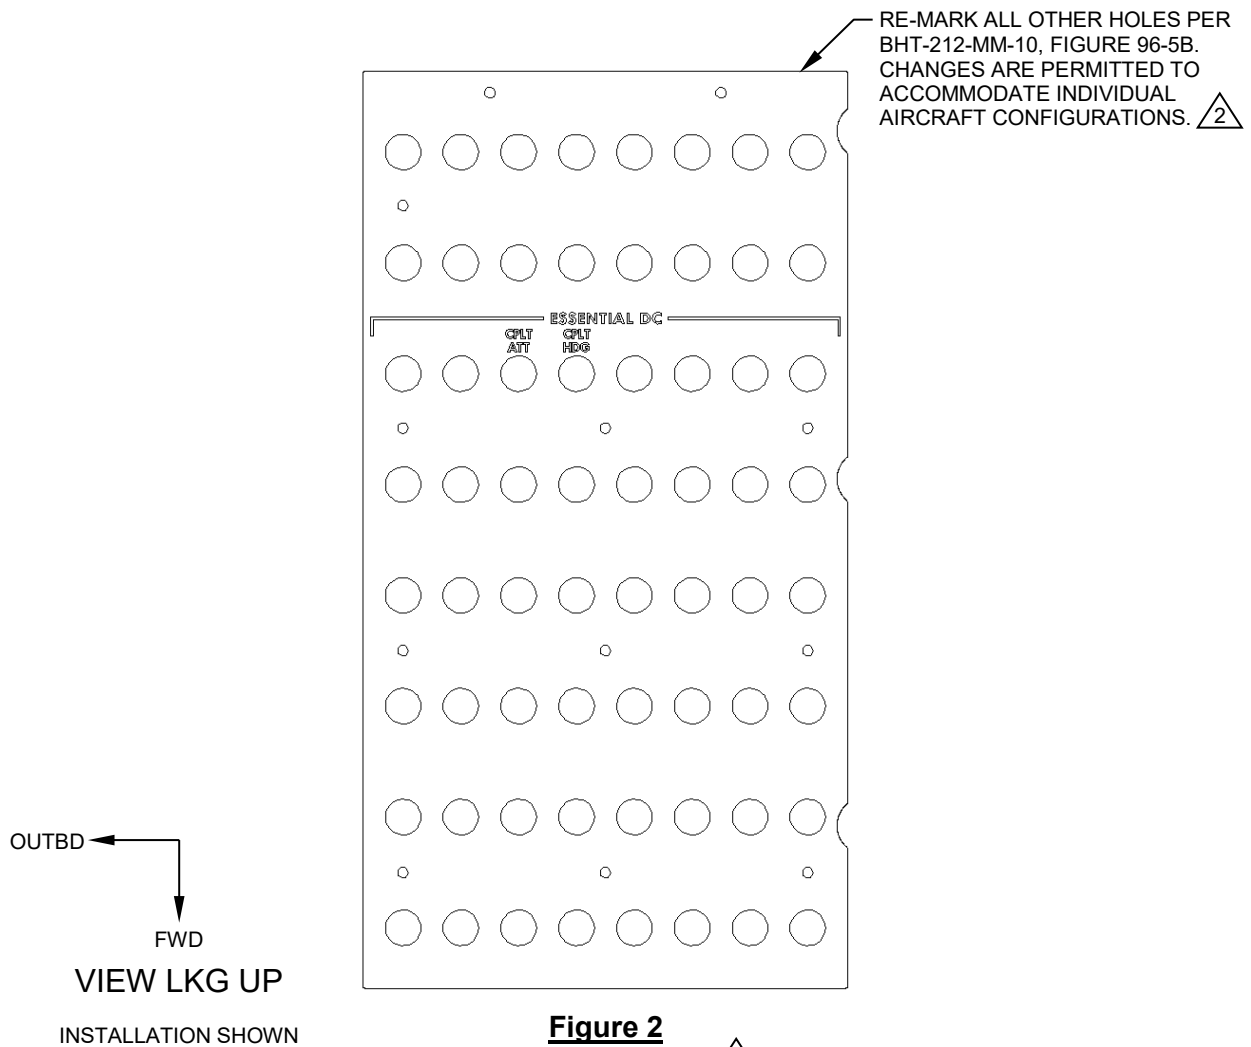

Figure 2
- Remove the lit overlay on the LHS overhead breaker panel and have it re-marked as shown. Alternately, if only day VFR operations are anticipated, it is permissible to identify Attitude and Heading circuit breakers with locally fabricated “CPLT ATT” and “CPLT HDG” labels. Reference Figure 2.
- i. Do not remove and re-mark/re-label the co-pilot (LHS) lit overlay panel. Reference Figure 2 and Step 4.